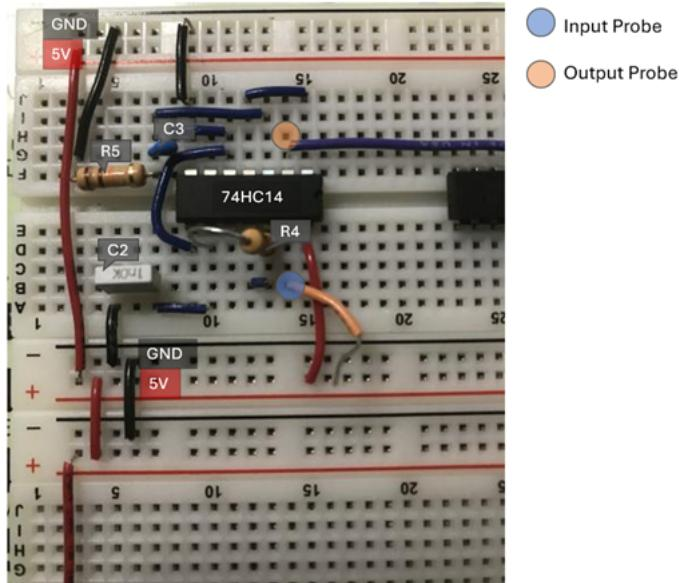

Figure 10: Setup of delay and reset circuit on breadboard for reading the counter reset pulse generated
- I set up the RESET circuit on the breadboard around the IC as seen in Figure 10